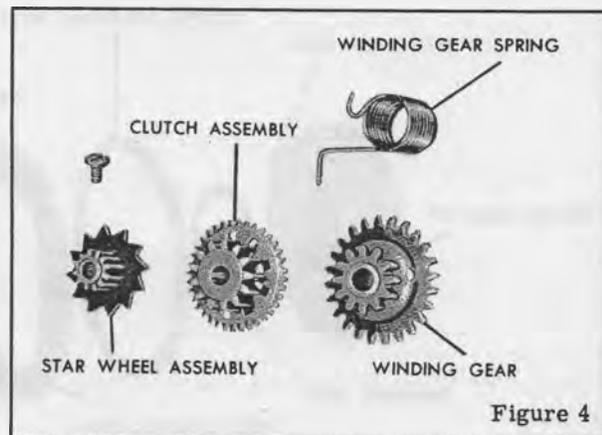

Figure 4
The CLUTCH ASSEMBLY, figure 4, is slipping.	Replace the clutch assembly.
3. Winding lever, with the sixth or seventh tooth from the left meshed with the WINDING GEAR, figure 4. Place the WINDING GEAR SPRING in tension by giving two and one-quarter strokes to the winding lever, lifting and replacing the lever after the first and second strokes. This should be the
5. WINDING GEAR, figure 4, and the WINDING GEAR SPRING.